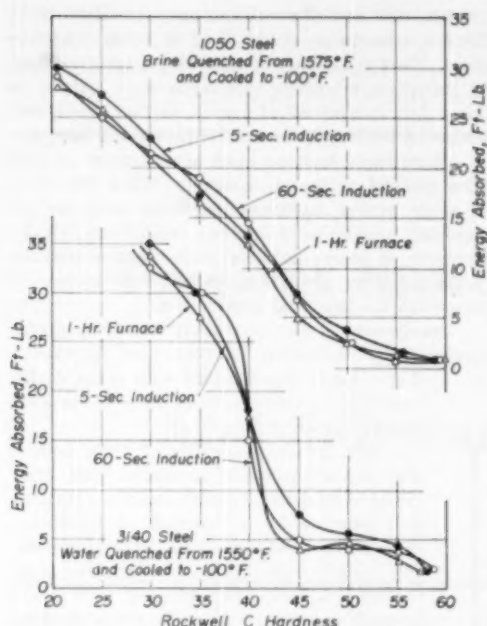

Fig. 4—Impact Energy Versus Hardness for 1050 and 3140 Steels Tempered to Similar Hardness by Various Tempering Cycles
Figure 4 gives the results of room temperature impact tests on 1050 and 3140 steel. Within experimental error, room temperature impact values are a function of hardness regardless of the duration of tempering.
R. H. Greaves and J. J. A. Jones† have shown that temper brittleness is caused by a precipitating phase which has a maximum rate of reaction at about 950° F. It seemed possible that tempering cycles of 60 sec. and less might be short enough to avoid temper brittleness. The curves in Fig. 4 do not lead to a definite conclusion regarding this effect. It must be remembered that room temperature impact tests are not necessarily a satisfactory criterion for temper brittleness. Additional tests are planned to study temper brittleness by means of transition temperatures.